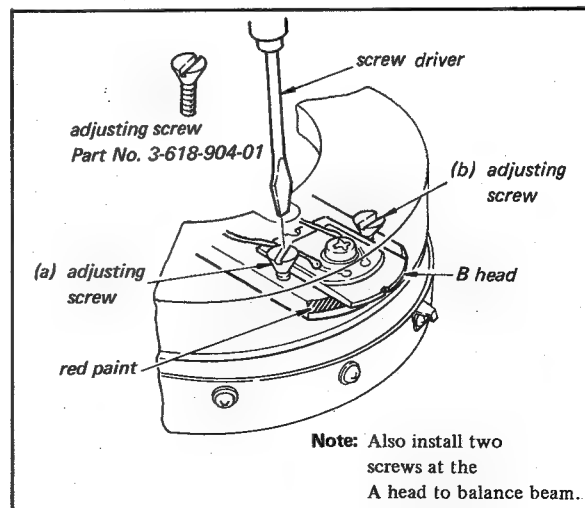

Fig. 4-7. Video head dihedral adjustment
This adjustment requires the use of the SONY alignment Tape and the four adjusting screws shown in Fig. 4-7. The adjusting screw has a tapered head which bears against the base of the head when turned clockwise, thus forcing the head to move laterally. The thread of this screw is different from that of any conventional screw.
5. Position the B head so that the threaded adjusting-screw holes are accessible through the cutout in the upper drum. See Fig. 4-7
10. First, loosen the (a) adjusting screw about a quarter turn counterclockwise and tighten the (b) adjusting screw a quarter turn clockwise. See Fig. 4-7.